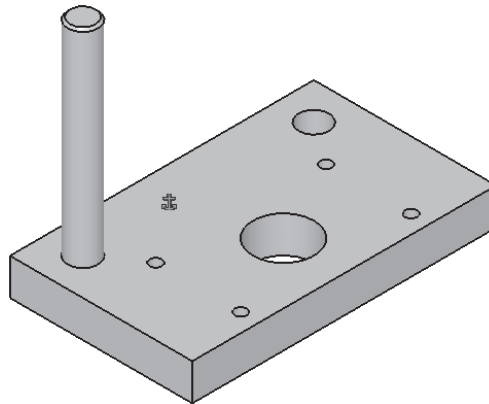

Figure 11-86 The final Guide Pillar
- c. Create the Guide Bush and Guide Pillar as subsequent components inside the product file, refer to Figure 11-86 through 11-88.
8. Turn on the display of the Bottom Plate and switch back to the **Assembly Design** workbench. The Guide Pillar in the assembly is shown in Figure 11-86.